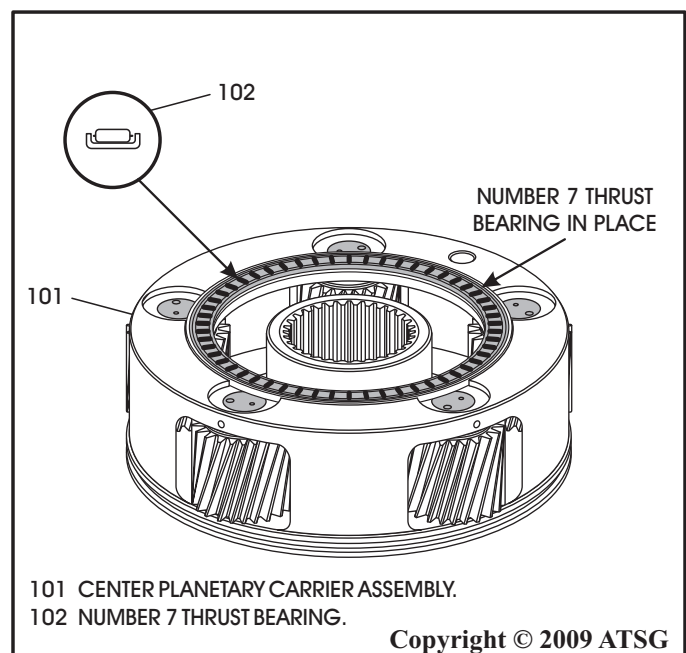

Figure 221
61. Install the number 7 thrust bearing on the back side of the center planetary carrier assembly, as shown in Figure 221, with the needles facing up and retain with Trans-Jel®.